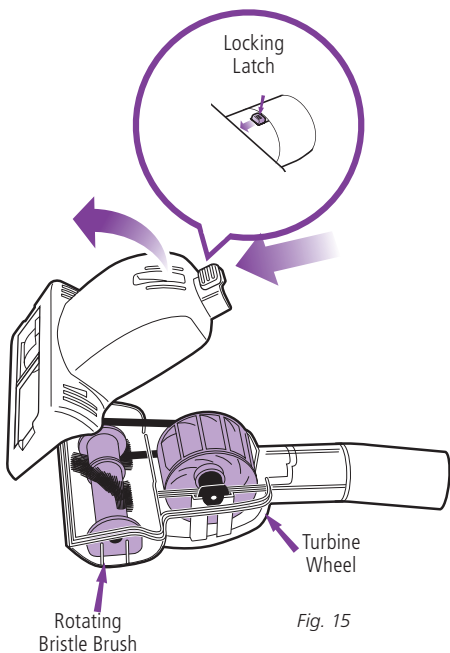

Fig. 15
- Turn the Power Brush over, slide the locking latch forward and tilt the cover upward to remove. (fig. 15)